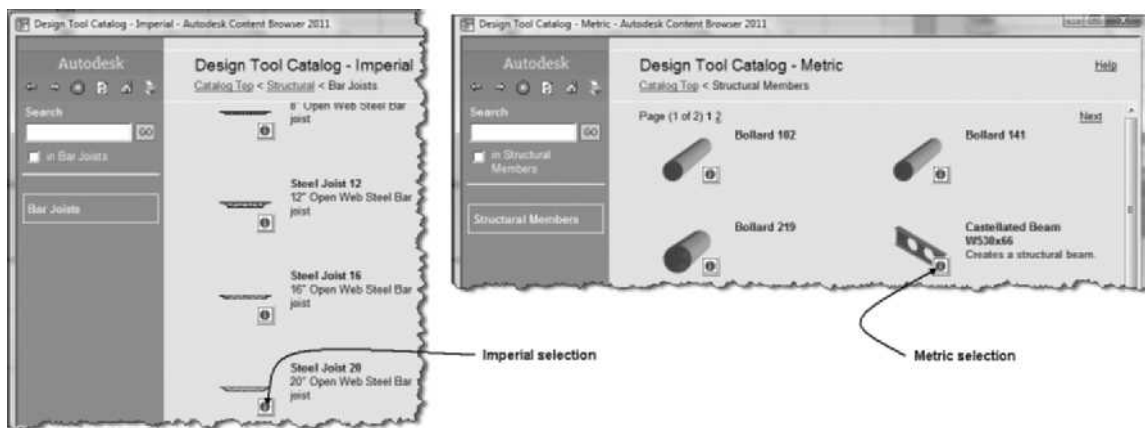

FIGURE 13.26 Steel Joist 20 [Castellated Beam W530 × 66] i-dropped into the drawing
19. Select the **Content Browser** from the Tools flyout menu in the Build panel. Select the Design Tool Catalog – Imperial > Structural > Bar Joists [Design Tool Catalog – Metric > Structural Members > Castellated Beam W530 × 66] as shown in Figure 13.26. Select the i-drop for the **Steel Joist 20** [Castellated Beam W530 × 66] and drag it from the catalog to the Structural tool palette.